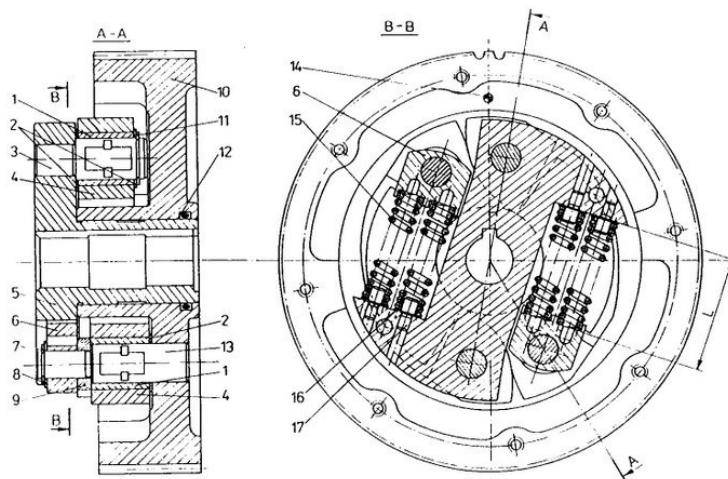

Fig. 49. Injection advance angle shifter
A shaft driving an injection pump is located in a support in such a way that one end drive through a teeth coupling an injection pump and on the other end is located an ignition advance angle shifter (Fig. 49). A shaft driving an injection pump has an eccentric cam driving a fuel supply pump.
- Remove cover and unscrew a nut fixing a shifter on a pump driving shaft (Fig. 49).
- Remove four springs (15) together with adjustment washers (16).
- Remove a hub (5) from a gear together with parts fixed to it.
- Remove a sealing ring (12) from seat in a gear hub.
- Take retaining rings (11) off hub dowels (3) and then remaining parts placed on dowels.
- Replace a gear (10) together with dowels if a hole diameter is greater than 28.021 mm (exceptionally 28.040 mm) or in case of an excessive wear of teeth.
- Replace a hub (5) together with dowels if a diameter of surface contacting with bearings is smaller than 27.927 mm (exceptionally 27.920 mm).
- Measure a maximal distances  $L$  between thrust surfaces of spring seats (6) and a hub firstly without adjustment washers and then put adjustment washers on dowels (17) and springs. The washer thickness should be greater for 0.5 mm than difference of a free spring length.